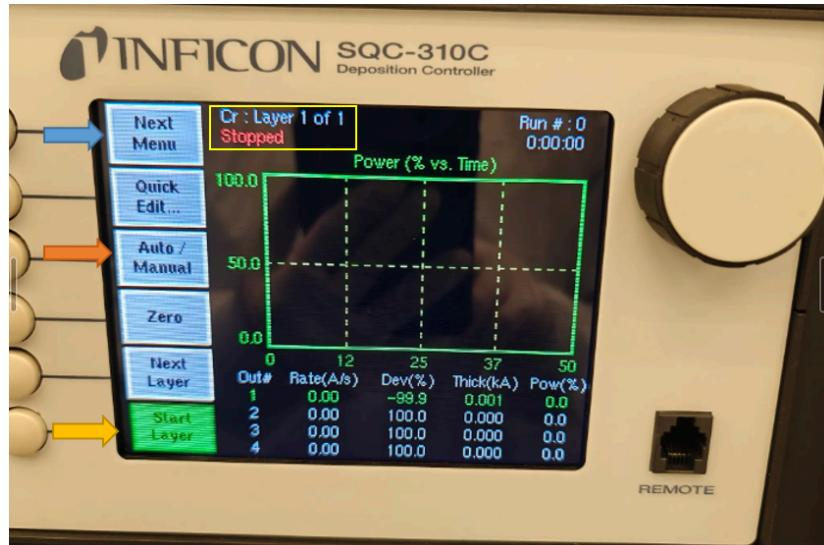

Figure 5
- c. See figure 5+6 in appendix for reference